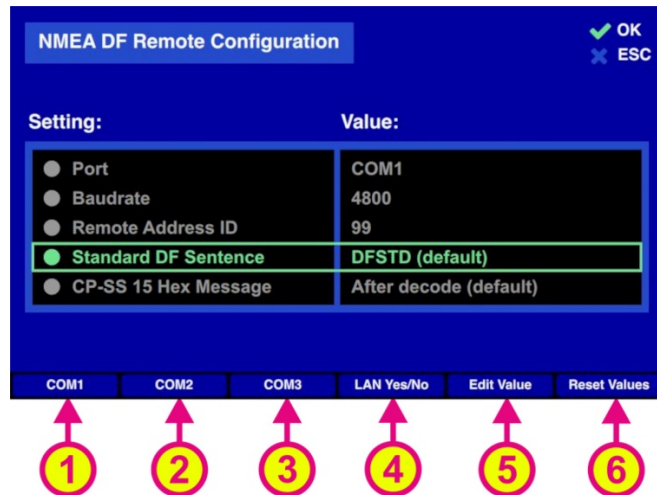
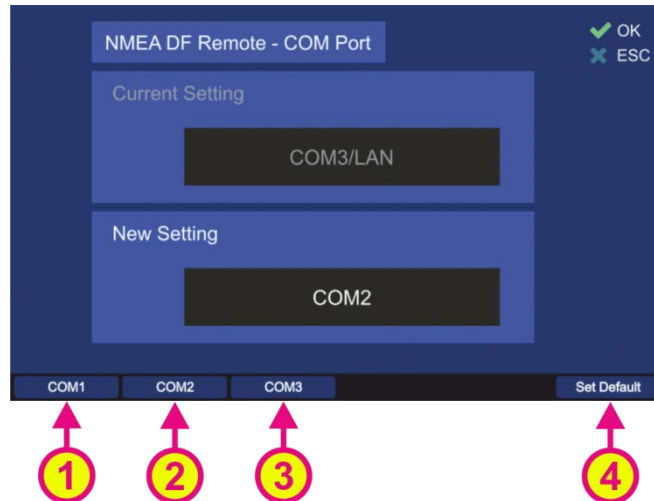
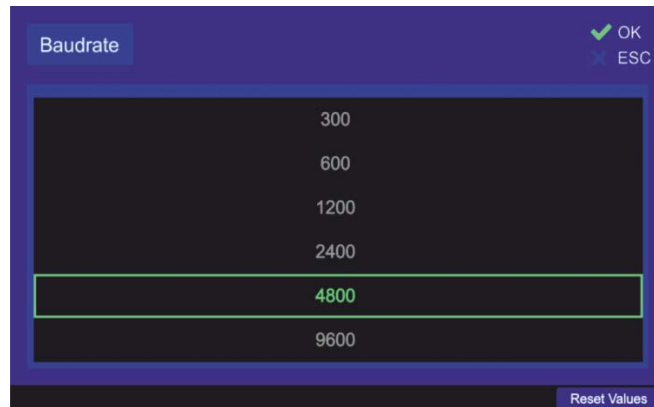

Fig. 141 NMEA DF remote control configuration
Fig. 142 Remote communication port configuration
Fig. 143 Remote control baud rate configuration
Additionally, by choosing the combination “COM3/ LAN”, the NMEA sentences will be also sent via the LAN connection (s. Fig. 141, position 3).
Following sub-menu will appear (s. Fig. 141).
Pressing the hotkey “Reset Values” (s. Fig. 141, position 6) will set all menu items to default values.
- Pressing the hotkey “LAN Yes/No” (s. Fig. 141, position 4) will turn on the additional communication over LAN (pressing this hotkey again will turn the LAN communication off, see also 6.4.4.3).
- Pressing the hotkey “Edit Value” while “Port” is marked (s. Fig. 141), opens the following sub-dialog (s. Fig. 142).
- Selecting “COMx” (s. Fig. 142, positions 1, 2 and 3) configures the corresponding NMEA interface as the remote communication port.
This setting will only set the communication port. Additional transmitting the NMEA sentences over LAN should be set in the top level menu (s. Fig. 141, position 4).
- To change the baud rate, press the hotkey “Edit Value” while the menu item “Baudrate” is marked (s. Fig. 141). The corresponding sub-dialog will be opened (s. Fig. 143).
- To change this Setting, press the hotkey “Edit Value” while the menu item “Remote Address ID” is marked (s. Fig. 141). The corresponding sub-dialog will be opened (s. Fig. 143).